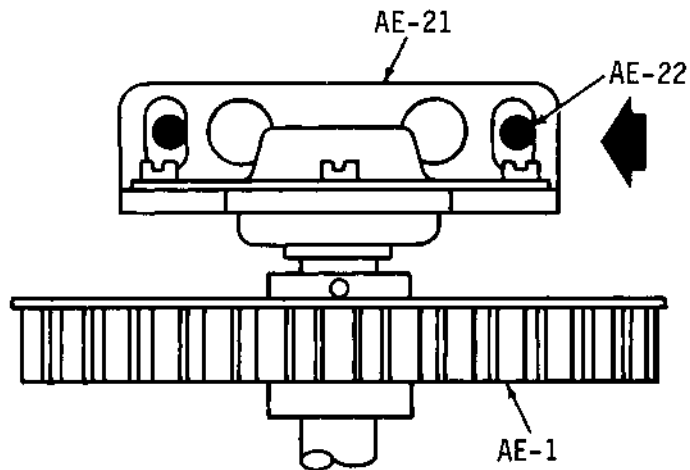

Figure 5-7A. LOCATION OF DRIVE PULLEY BRACKET (AE-21)
- a. Maintain one back bracket (AE-21) supporting the drive mechanism as far left as possible prior to tightening screws, washers (22) (23). (See Fig. 5-7A)